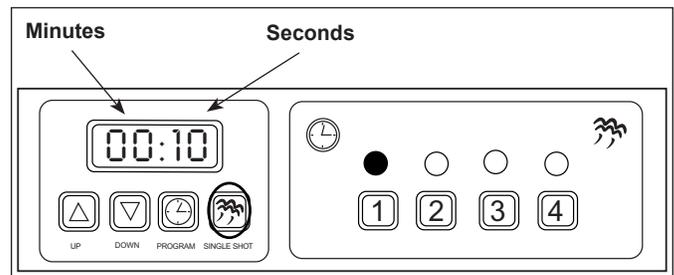

Figure 7. Programming Mode SINGLE SHOT Button Used for Saving All Changed Settings.
**NOTE: During preheating, the display will flash "LOW". When unit reaches operating temperature, the display shows the factory pre programmed (default) time in minutes/seconds (Figure 7) and the active channel indicator light will be on.**
3. Press the **UP** or **DOWN ARROW** buttons to change the total cycle time in minutes (Figure 7).